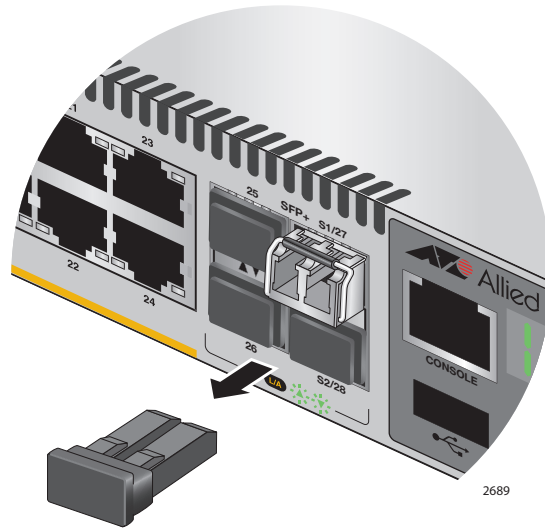

Figure 62. Removing the Dust Cover from a Stacking Transceiver
4. Remove the dust cover from the transceiver, as shown in Figure 62 on page 101.